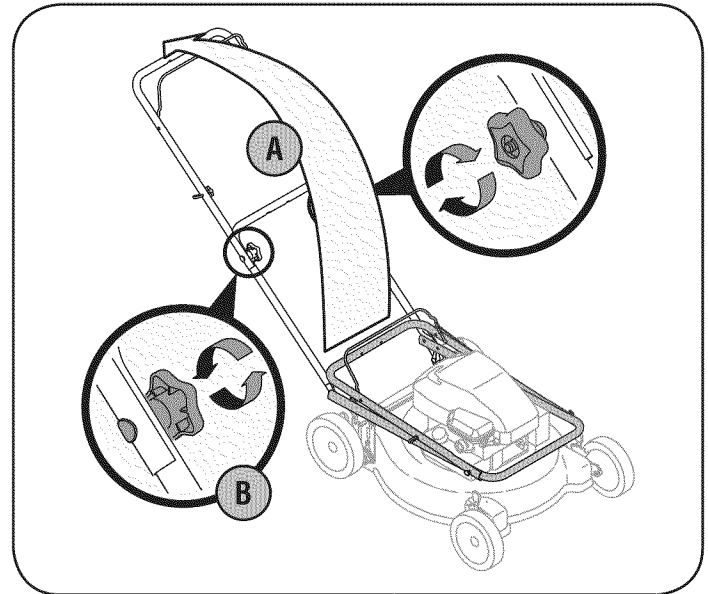
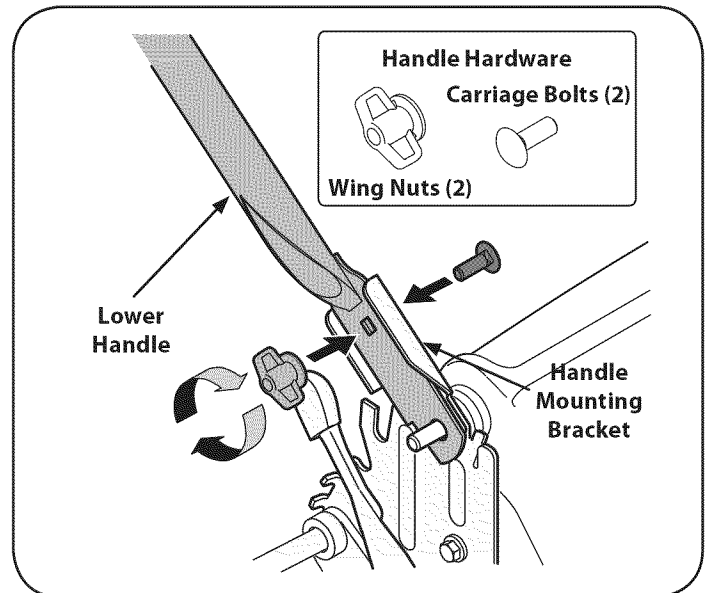

Figure 1
Figure 2
- A. Pull up and back on upper handle as shown in Figure 1. Make certain the lower handle is seated securely into the handle mounting brackets. See Figure 2. Do not crimp cables while lifting the handle up.
2. Insert a carriage bolt found in the manual bag into the upper hole on the handle mounting bracket. Secure with one plastic wing nut, also included in the manual bag. Repeat on other side with remaining hardware. See Figure 2.